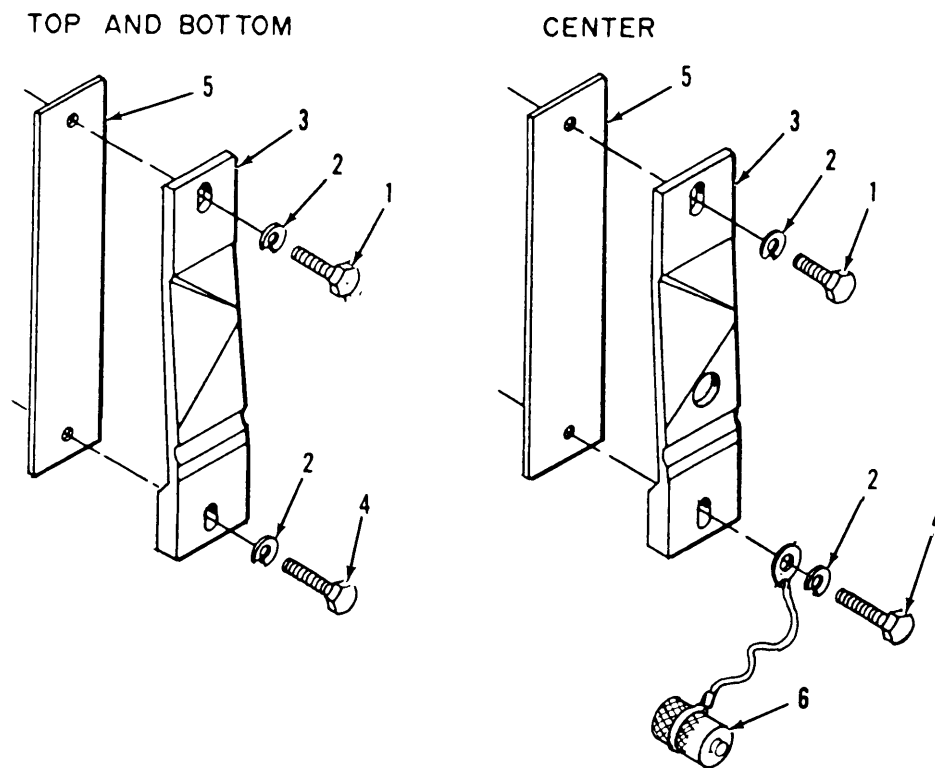

Figure 3-24. Keeper Assembly Removal.
a. Inspect. (Figure 3-24)
- (1) Inspect for wear and other physical damage.
- (2) Inspect for secure mounting.
- (3) Inspect latch lock assembly (3) for wear or damage.
b. Replace. (Figure 3-24)
- (1) Remove and retain hex-head screw (1) and lock washer (2) from top (upper) hole of keeper assembly (3).
- (2) Remove and retain hex-head screw (4) and lock washer (2) from bottom (lower) hole of keeper (3) attaching each of the keepers (3) and shim (5) to wall and remove.
- (3) If only latch lock assembly (6) has to be removed, remove and retain hex-head screw (4) and lock washer (2) attaching the center keeper at the bottom (lower) hole.
- (4) Position shim (5), and each keeper (3) in place and secure to shelter wall at top hole using hex-head screw (1) and lock washer (2).
- (5) Secure keeper to wall at bottom hole using hex-head screw (4) and lock washer (2).
- (6) If only latch lock assembly (6) has to be installed, position in place over bottom mounting hole of center keeper and secure using hex-head screw (4) and lock washer (2).